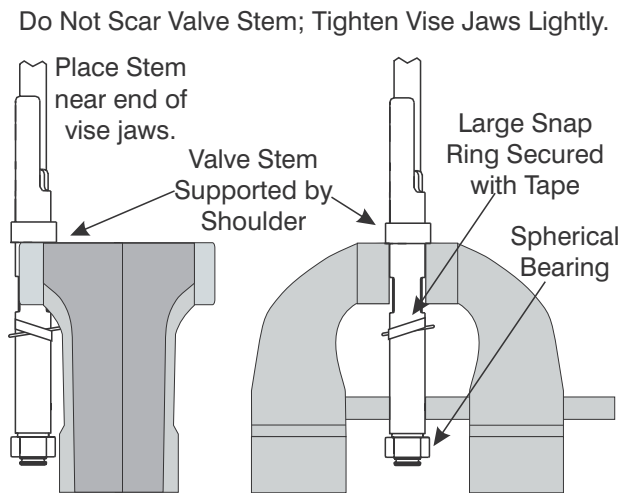

Figure 8-32. Secure Valve Stem in Vise
8. Turn the Valve Stem (5) so the end with the Spherical Bearing (2) is down, and place the Stem in a vise as shown in Figure 8-32.